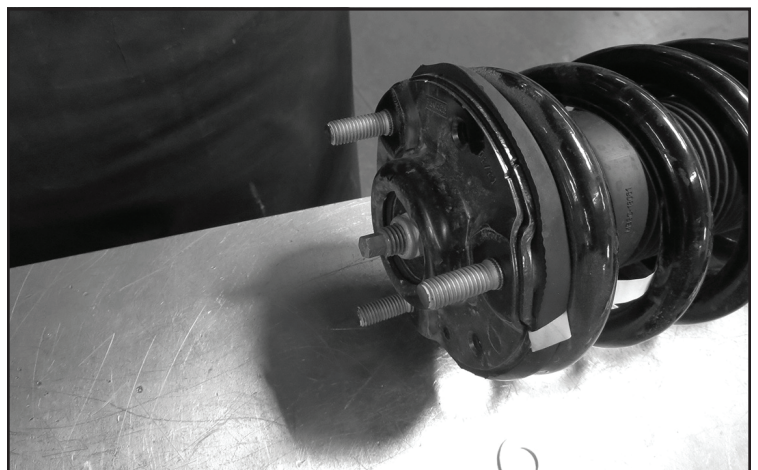

FIGURE 11 - STEP 11
11. Remove 3/8" from the end of all three upper strut assembly studs. **SEE FIGURE 11**